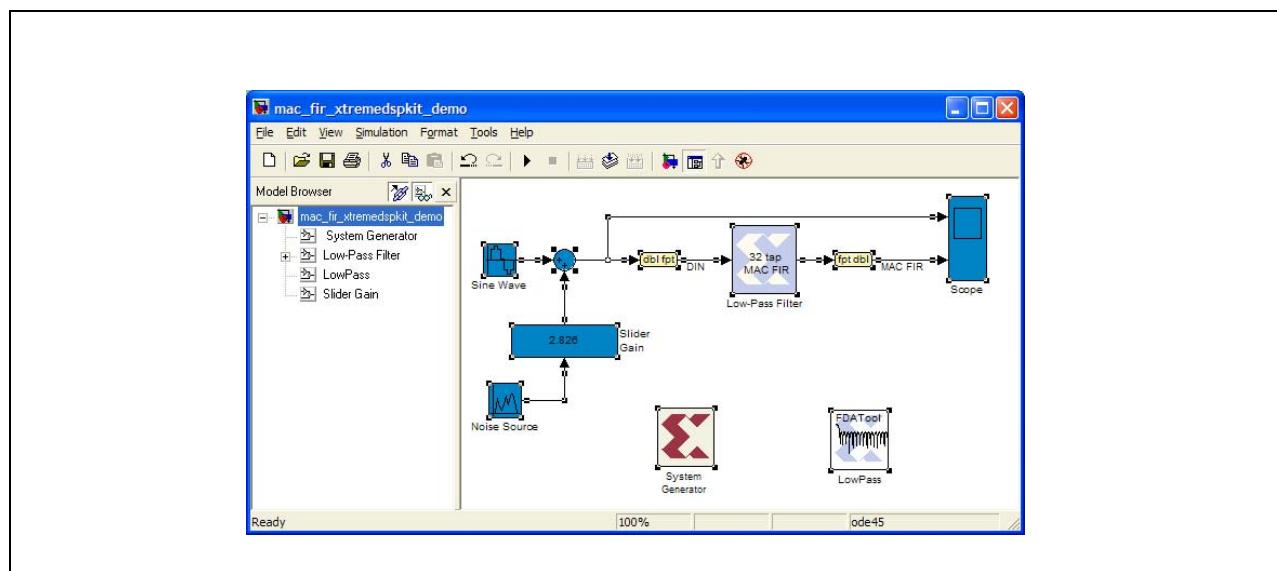

Figure 120: Simulink Model: 'mac_fir_xtremedspkit_demo.mdl'
2. Open **mac_fir_xtremedspkit_demo.mdl** model from the MATLAB console. This model represents a simple 32 tap MAC FIR with stimulus noise and sinewave sources as shown in Figure 120 on page 200.